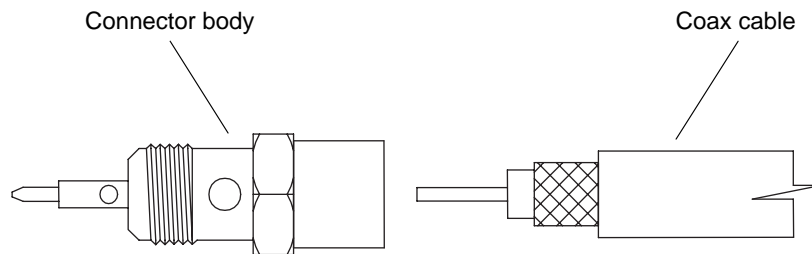

Figure 16. Attaching the Coax Connector Body
- 2 Insert the end of the coax cable into the connector body as shown in Figure 16. Thread the connector body onto the outer sheath of the cable.